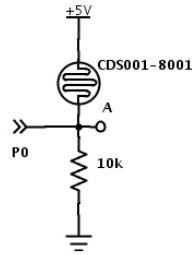

Fig. 2 Circuit diagram of the voltage divider using the photoresistor.
- 1) Derive an expression for the voltage-divide at Node A in the circuit shown in Fig. 2 as a function of the light (in lumens) incident on the photo resistor, then derive an expression for the luminosity as a function of the voltage at Node A. Note: Examine the data sheet of the CDS001-8001 and consider a polynomial or exponential expression that can be solved (in both the direct and inverse problems) with a minimum number of three initial conditions (data points) to calculate the unknown coefficients.
- 3) Assemble the circuit shown in Fig. 2 on the breadboard.